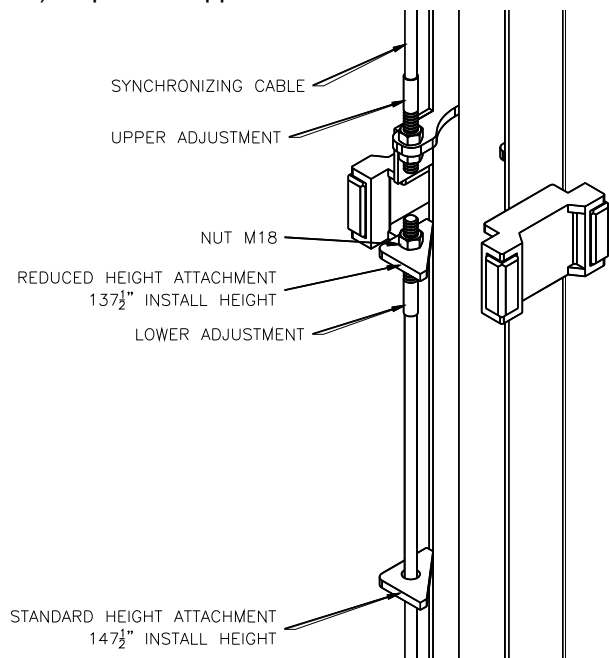

Fig 4 – Synchronizing Cables
- 16) Attach one end of synchronizing cable to carriage. **See Fig 4** for proper attachment.
- 17) Route cable up and over sheave in overhead. Follow across to other sheave on opposite column. Route down through carriage to sheave in bottom of column. Route under sheave and up to cable attachment. Lower attachment point is used for Standard Height Installation (175") and the Upper attachment point is used for Reduced Height Installation (166"). Use **Fig 4** for proper attachment.